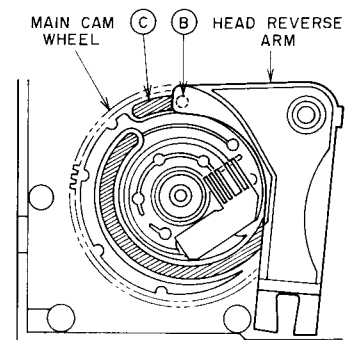

Fig. 4-3
- 2) Insert the pin ⑥ of the HEAD REVERSE ARM into the groove ③ as shown in Fig. 4-3.